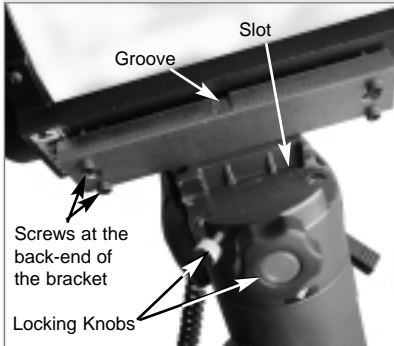

Fig. 48: Mounting the SC bracket and optical tube to the mount.
2. Slide the mounting bracket into the cradle assembly mounting slot. For most applications, set the groove in the bracket next to the cradle locking knob, so that the bolt of the cradle locking knob will enter the groove when the knob is tightened. Tighten both the cradle locking knob and the secondary locking knob to a firm feel. See **Fig. 48**.
If you are using heavy accessories (such as a camera, microfocuser, etc.) on the back end of the tube, you may need to balance the tube differently to keep the tube from drifting downward: Slide the mounting bracket and tube forward, until the screws at the back end of the tray touch the mount. See **Figs. 48** and **49**. Then tighten the cradle locking knob and the secondary locking knob to a firm feel.